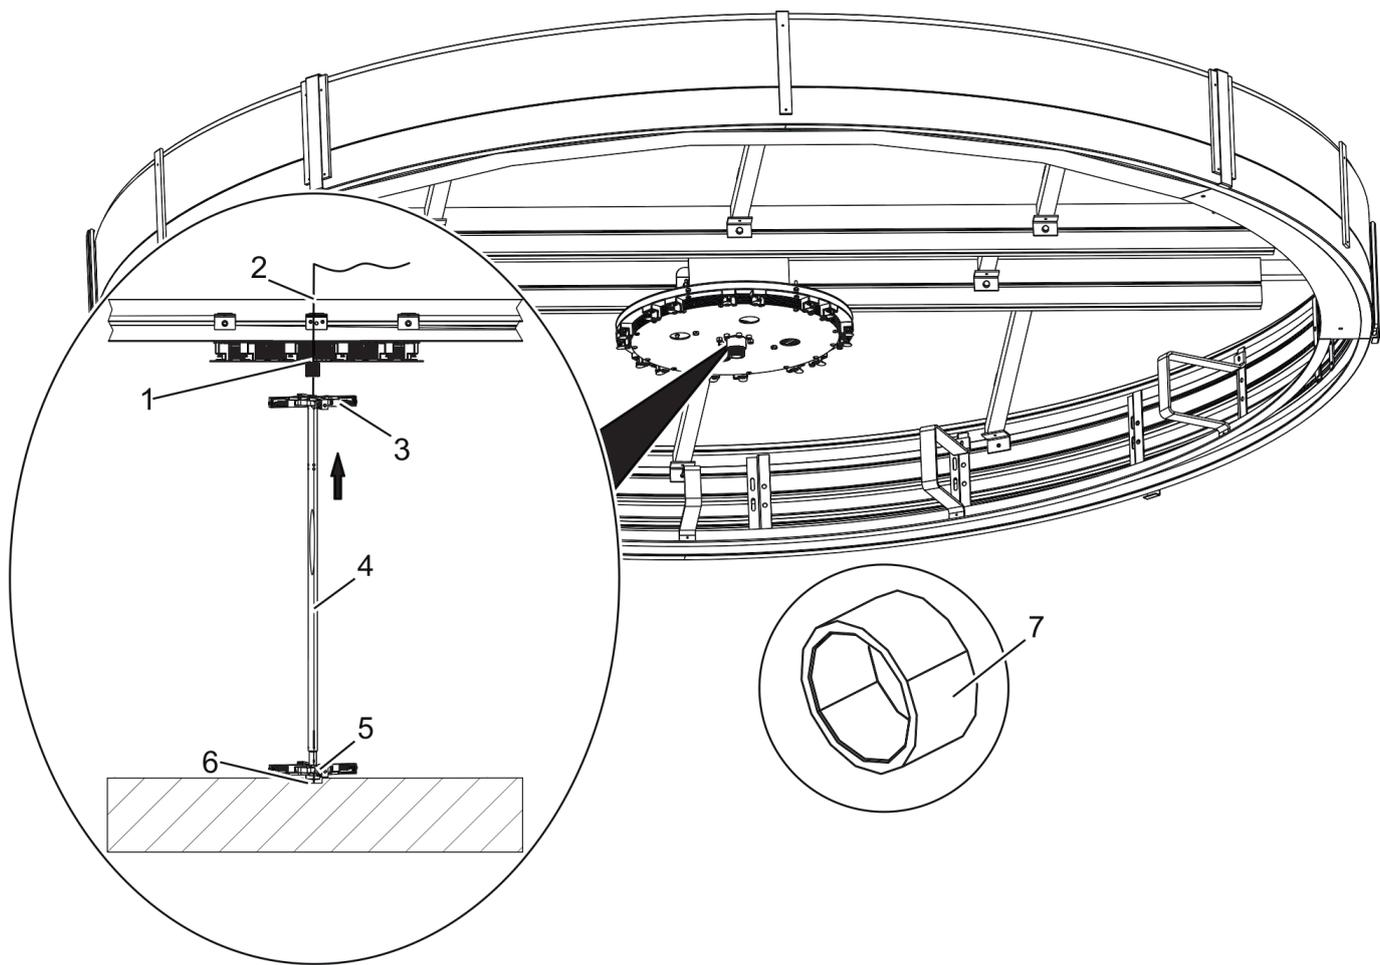

Fig. 93 Inserting bookfold center column and fittings
6. Slide the bookfold sleeve onto the toothed shaft (Fig. 93/7).
7. Insert the lower cross fitting (Fig. 93/5) vertically into the floor bearing (Fig. 93/6).
8. Pull the center column (Fig. 93/3) apart in the direction of the arrow and insert the bookfold fitting with the toothed shaft of the operator.